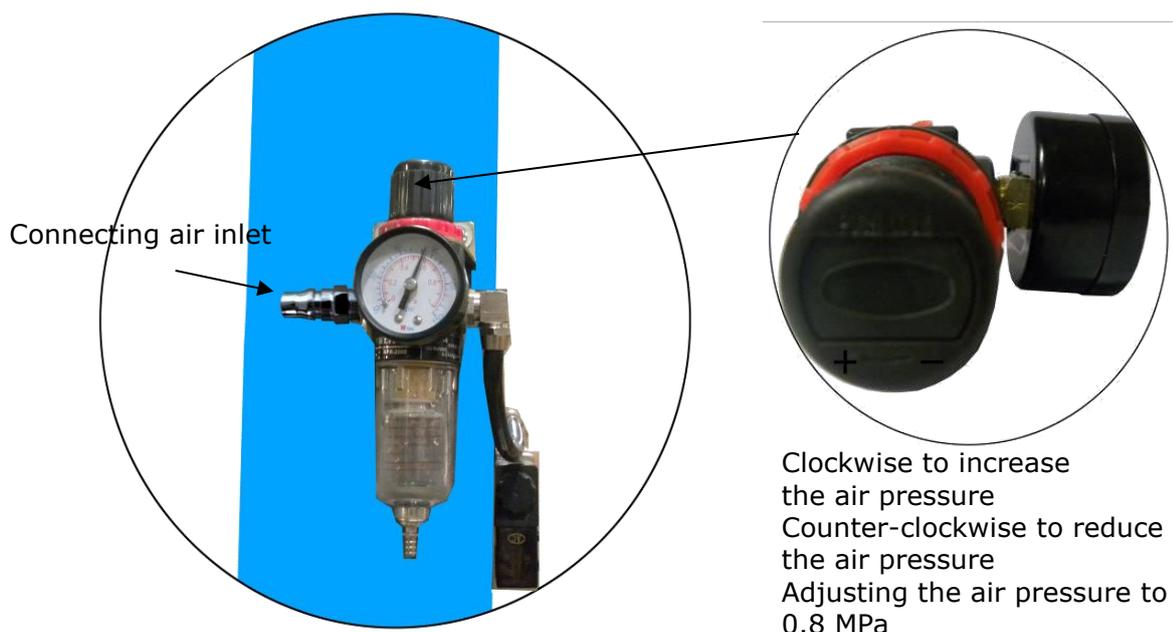

Fig. 42
5. Connecting air inlet (Air supply pressure 5-8 kg/cm²), adjusting the air pressure of Oil-water separator to 0.8 MPa (See Fig. 42).